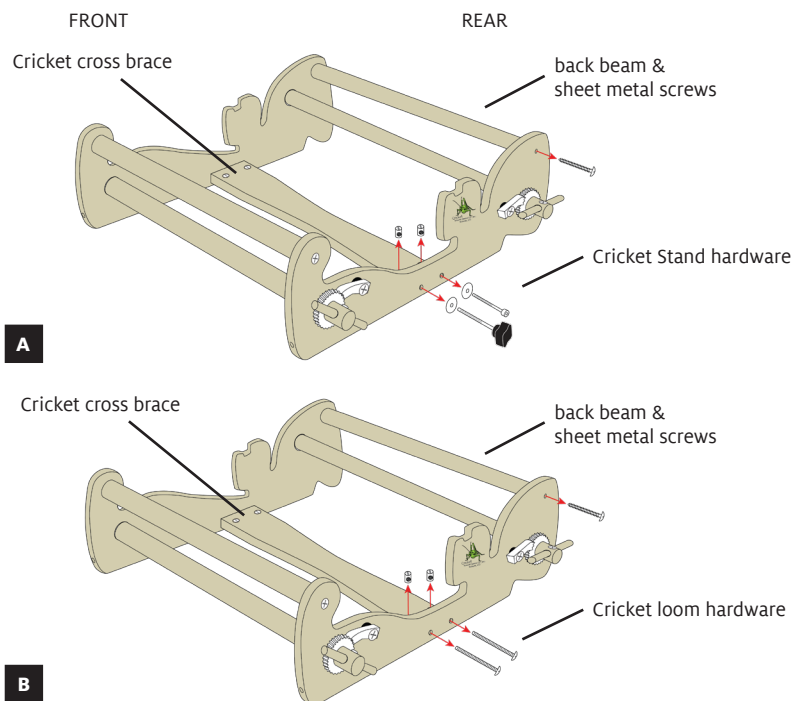

FIGURE 13: REMOVE CRICKET CROSS BRACE AND BACK BEAM
23. For all looms, remove the back beam as shown in Figure 13. Set aside the back beam and the two sheet metal screws for step 29.